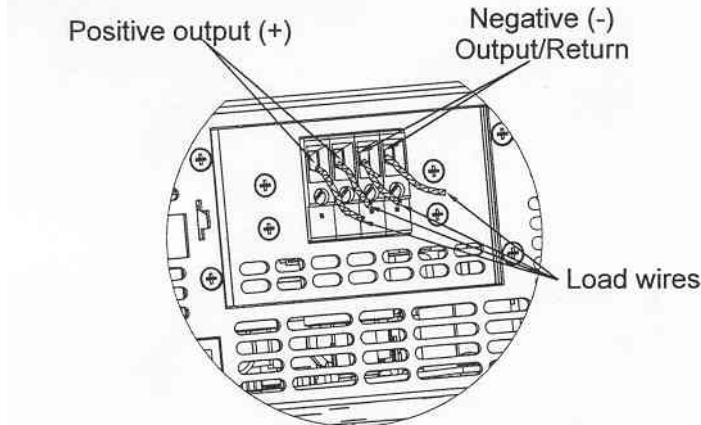

Fig.3-8: Load wires connection to the output connector
3. Insert the stripped wires into the terminal and tighten the terminal screw securely (see Fig.3-8)
5. Assemble the protective shield to the chassis and tighten the two screws to fix the shield to the chassis (see Fig.3-8). Screws tightening torque: 4.8-5.3 Lb-inch. (0.5 - 0.6Nm)